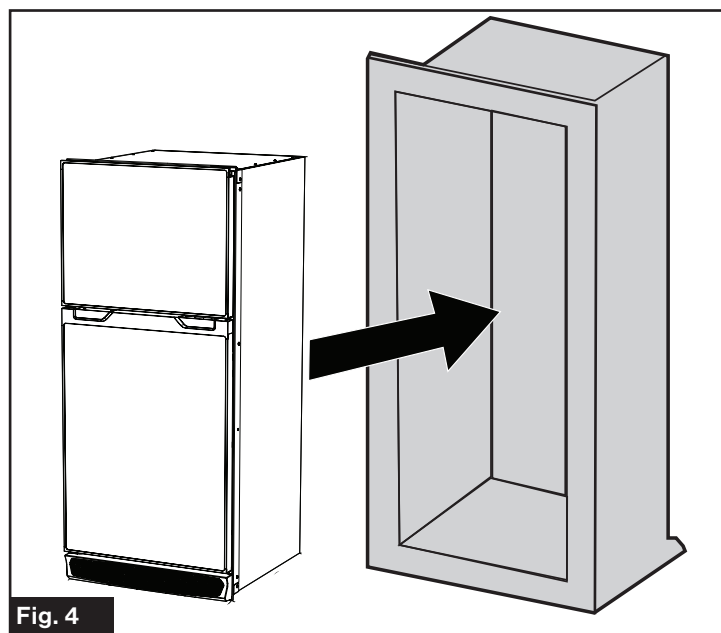

Fig. 4
1. Slide the unit into the enclosure. Care should be taken to avoid rubbing the chassis and wire together during installation. (Fig. 4)
1. Place refrigerator in the enclosure, described in Fig. 4 from the "**Installation without Sidewall Access**" section. Disregard any electrical connections at this step.